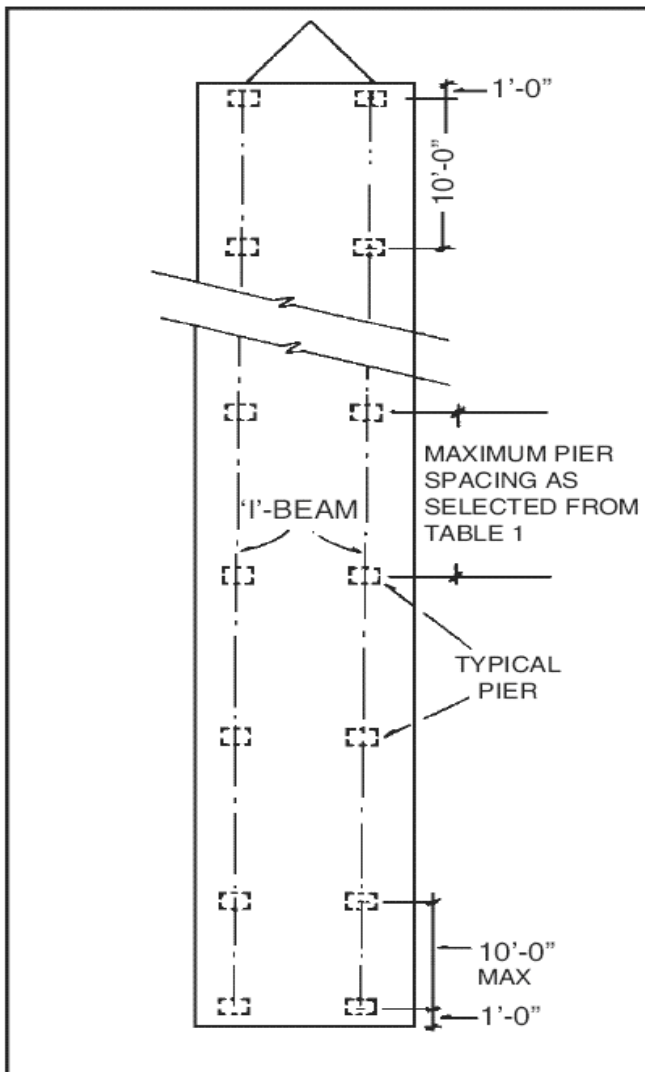

Fig. 2
2. Use a steel plate (3/8" x 2 1/2") between jack and steel "I"-beam to distribute the concentrated loads. (see Fig. 2)